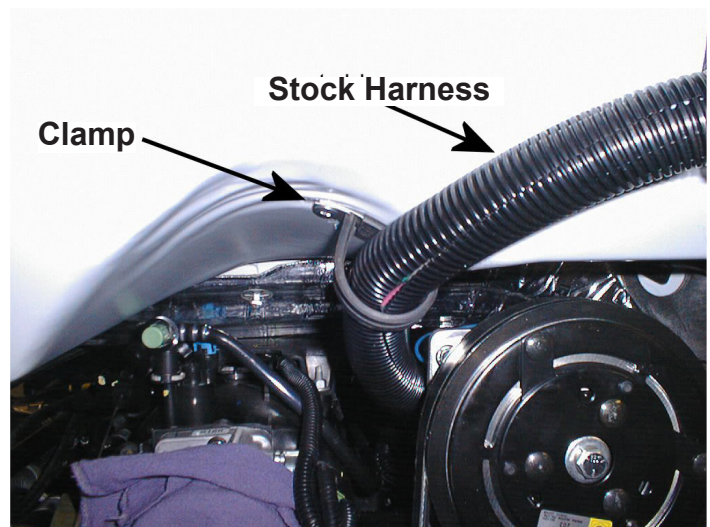

Figure 42. Hold Main Wire Harness Away from CDS Clutch
3. Use the provided 1-½ cushion clamp and self-tapping screw to hold the main wire harness away from the CDS clutch (see Figure 42).